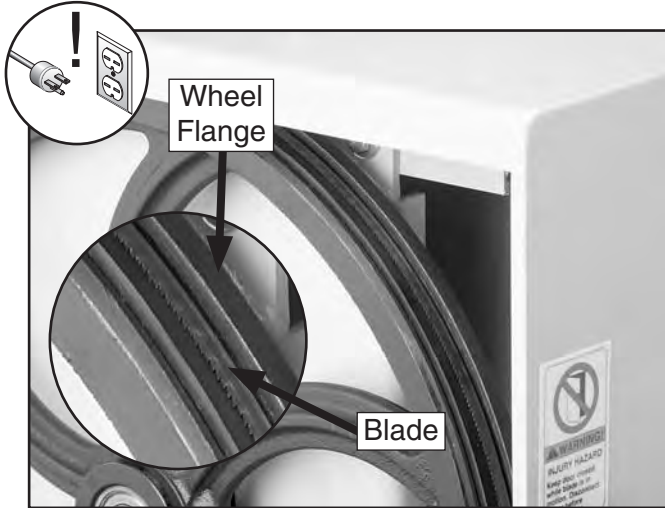

Figure 22. Back edge of blade next to wheel flange.
- Position the back edge of the blade so that it is next to, but not against, the flange of the top wheel (see **Figure 22**).